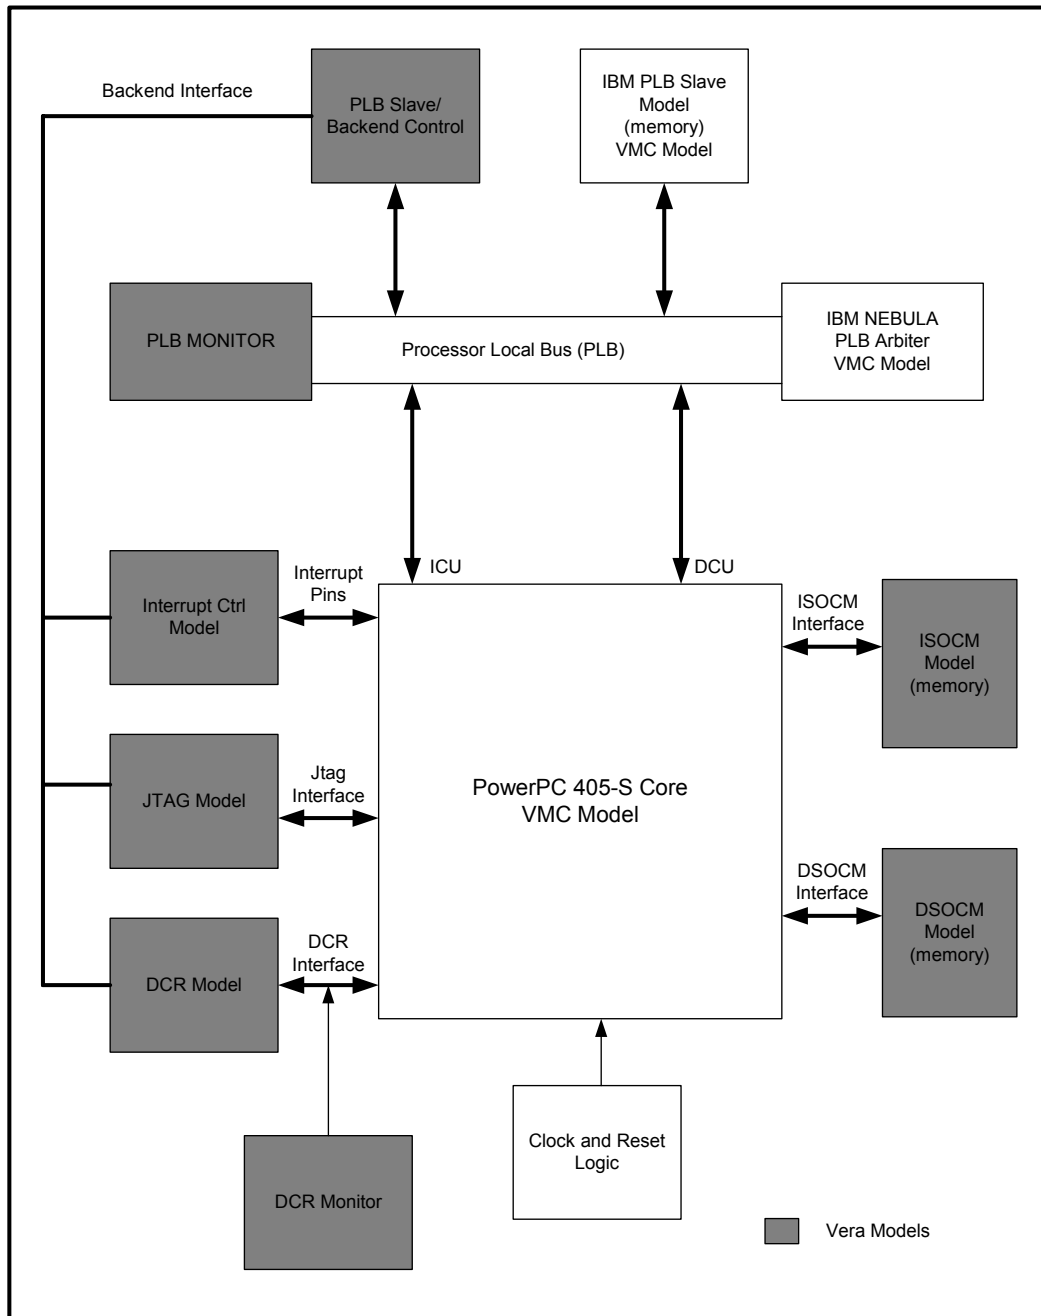

Figure 6: Testbench Block Diagram
- A testbench (Figure 6) that instantiates the PowerPC 405-S CPU VMC model as the device under test, plus the models listed in Table 3 attached to the PowerPC 405-S CPU interfaces.